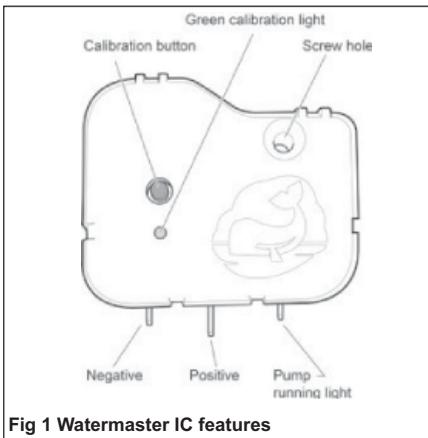
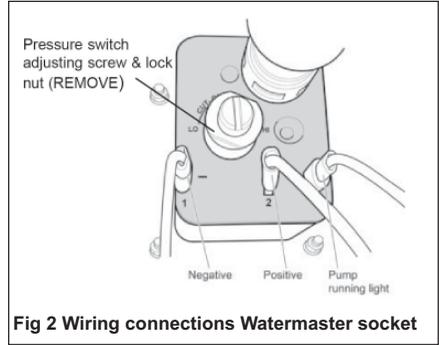

Fig 1 Watermaster IC features
Fig 2 Wiring connections Watermaster socket
Putting into <<service>> Figure 1.
Operation of the <<reserve>> Figure 2.
- Step 2 - Unplug the spade connections on the water inlet socket - ensuring that you note the order of wires for reconnection with the Watermaster IC (See Fig 1 and Fig 2).
Step 3 - Unscrew and remove the pressure switch adjusting screw and locking nut (see Fig 2)